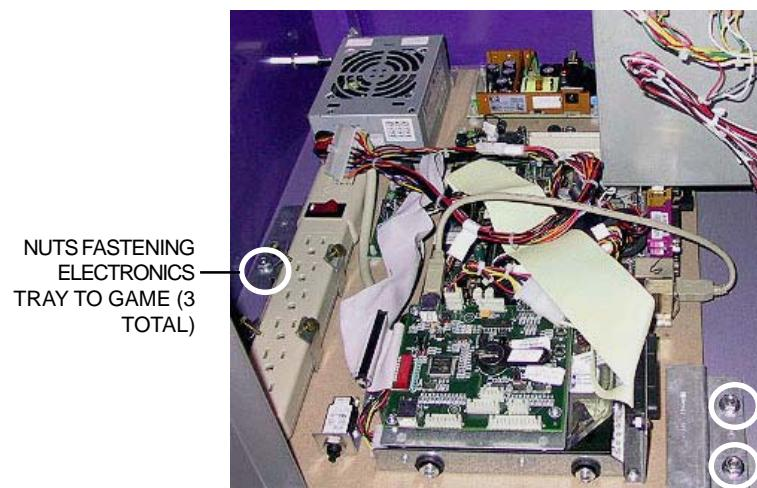

FIGURE 2 - CPU SECTION - ELECTRONICS TRAY MOUNTED ON BOTTOM WALL
4. Using Figure 2, locate the hard drive behind the I/O board. Remove the 4 screws and any connectors securing the I/O board to the hard drive assembly.
5. Remove the 5 shoulder washers securing the hard drive assembly to the electronics box, then remove the assembly until you're able to disconnect the hard drive power connector and hard drive ribbon cable. See Figure 2.